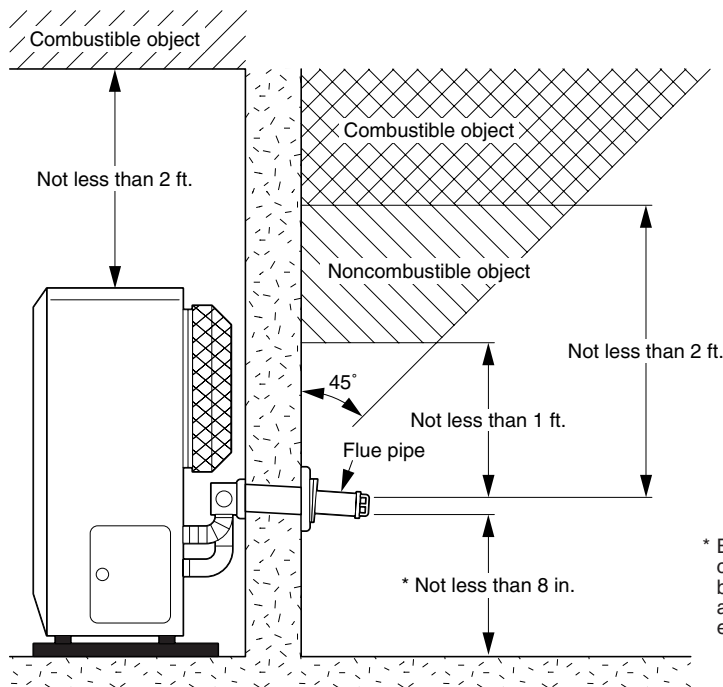

Fig. 2
①	Adjustable Exhaust Pipe Max. 39- 3 / 8 ~ Min. 22- 7 / 16	1
②	Intake Pipe (40 inch)	1
③	Insulating cloth cover (40 inch)	1
④	Pipe Holder	2
⑤	Pipe Support Hardware	2 sets
⑥	L-Shaped Exhaust Joint	1
When using the "Extension pipe (M)" extension kit, the distance between the heater exhaust pipe connection and the flue pipe connection must be at least 25-9/8 inch but no more than 42-1/2 inch. (See Figure 2 for reference.)
2. Make sure that the outside area to where the flue pipe will reach is clear of any objects. (See Fig. 2 & 3)
**CAUTION!** The standard flue pipe installation, as shown in Fig. 2, is for wall thickness from 4 in. to 9 in. ONLY.